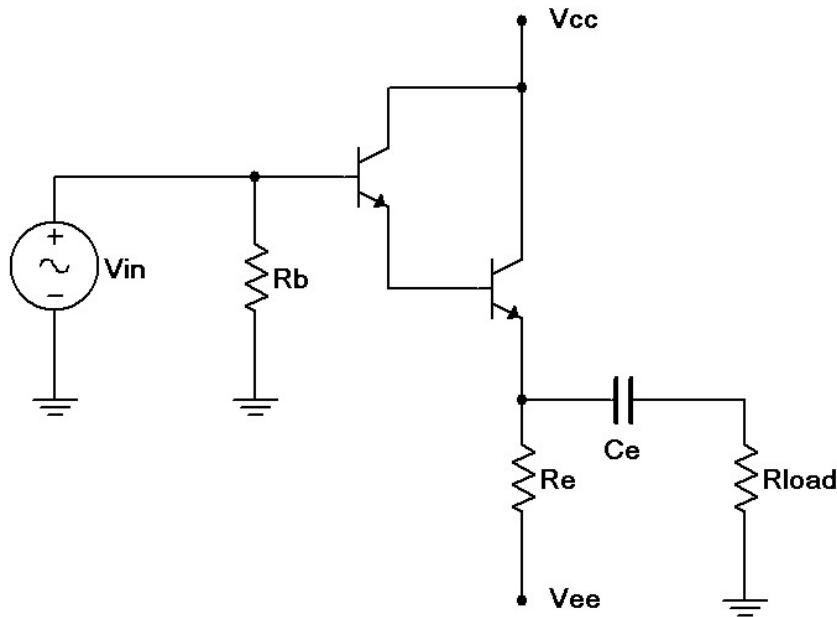

Figure 1
1. Consider the circuit of Figure 1 using $V_{cc} = 5$ volts, $V_{ee} = -12$ volts, $R_b = 47 \text{ k}\Omega$, $R_e = 1 \text{ k}\Omega$, $R_{load} = 100 \Omega$ and $C_e = 470 \mu\text{F}$. Determine the theoretical I_{CQ} , V_{CEQ} , $v_{CE(cutoff)}$ and $i_{C(sat)}$, and record these in Table 1. It is helpful to plot the AC load line for step three. Note that the collector-emitter saturation voltage for a Darlington pair cannot be assumed to be 0 volts, and may be closer to one volt, thus reducing the expecting voltage swing toward the saturation point. It is also worth noting that this amplifier has a *direct coupled* input (i.e., no input capacitor is required due to the very small DC base voltage).
2. Build the circuit of Figure 1 using $V_{cc} = 5$ volts, $V_{ee} = -12$ volts, $R_b = 47 \text{ k}\Omega$, $R_e = 1 \text{ k}\Omega$, $R_{load}=100 \Omega$ and $C_e = 470 \mu\text{F}$. Disconnect the signal source and measure the DC transistor voltages to ensure the circuit is biased correctly. Record V_{CEQ} and I_{CQ} in Table 1 (Experimental).